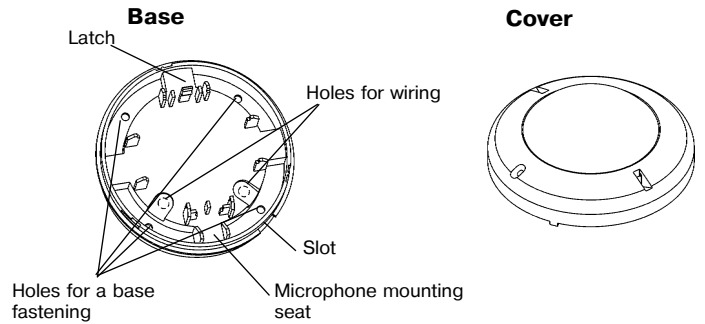

Figure 3 – Base and cover of the Detector
- Put off the Detector cover by its turning counter-clockwise until tight (See Figure 3);
- Drill the holes in the base (See Figure 3) for the Detector wiring and fastening the base;